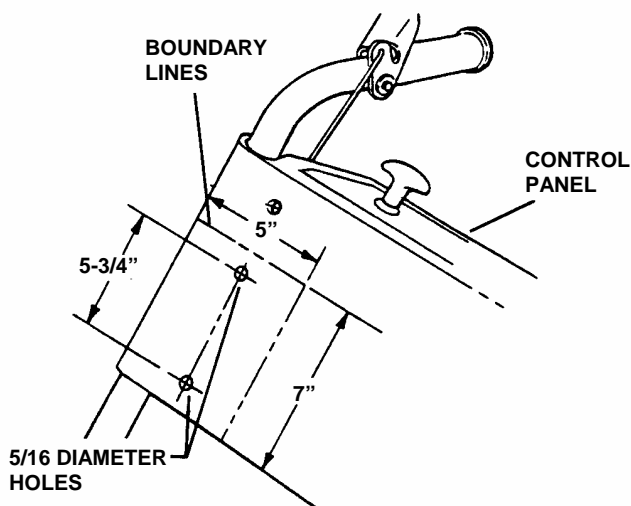

FIGURE 2
STEP 2: Drill two 5/16 diameter holes in control panel within the 5" by 7" boundary lines shown. Drill holes using dimensions shown. See Figure 2.